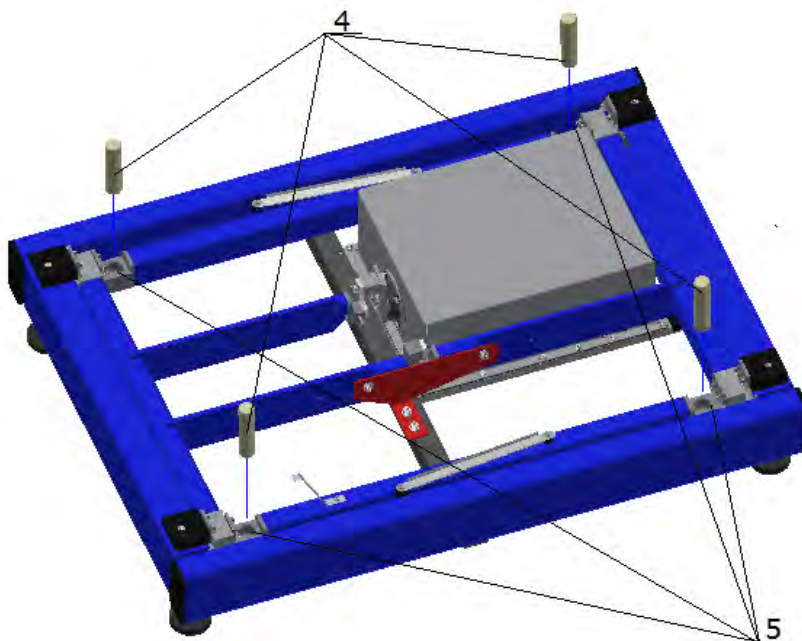

Fig.3
3. Place mandrels (4) for the weighing pan support in lever seating(5). (Fig. 3)